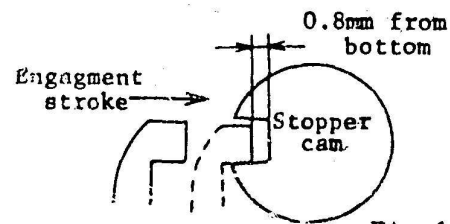

Fig 1
4. Thread the cable as shown in figure 1.